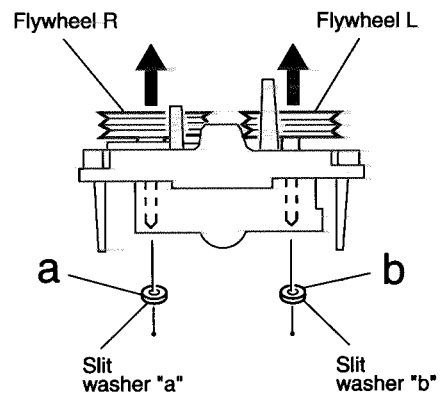

Fig.9
■ Removing the Flywheel (See Fig. 9,10)